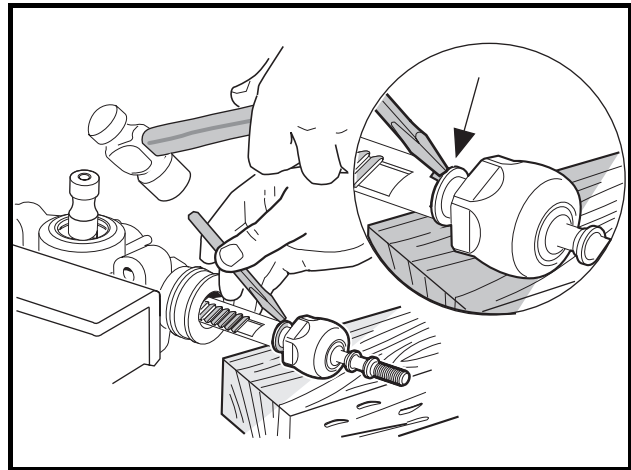

Figure 7-15 Remove Inner Ball Joints
13.2. Tap the flange out of the notch in the rack (**Figure 7-15, Page 7-7**).